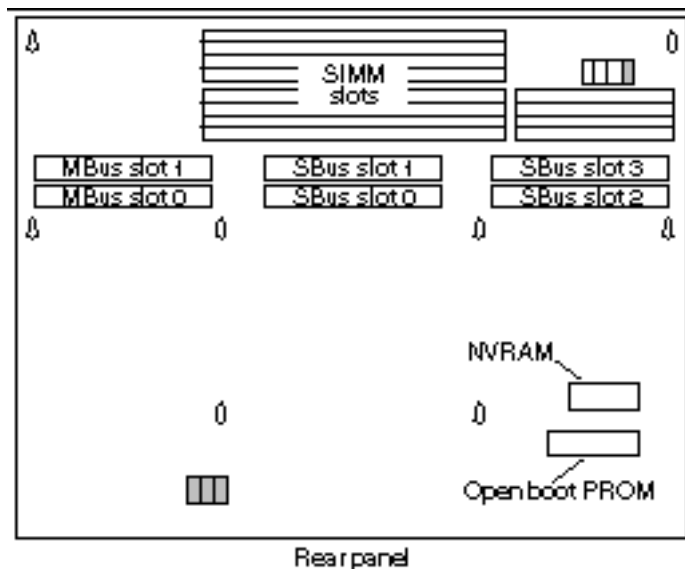

Figure 7-5 Location of the NVRAM on the MLB
6. **Locate the NVRAM chip on the MLB. See Figure 7-5.**